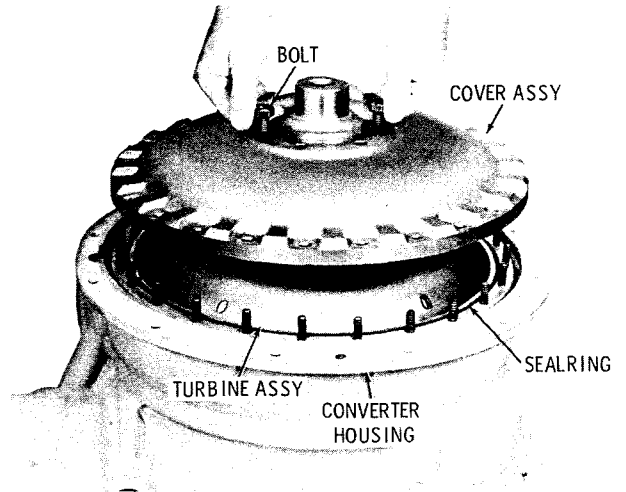

Fig. 7-41. Installing torque converter cover assembly
(4) If the transmission is equipped with a dry converter housing, install the sealring into the groove in the converter pump splitline (fig. 7-41).
(1) Install the torque converter drive cover (fig. 7-41).
(2) Install twenty four 5/16-24, self-locking nuts 4 (B, foldout 5) to retain the cover. Tighten the nuts to 14 to 18 pound feet torque.
(3) There are two types of direct-mount drives. One type employs a flex disk (items 6 through 9 in B, foldout 5). The other type employs a drive ring (items 1, 2 and 3). For the flex disk, follow (4), below. For the drive ring, follow (5) and (6), below.
(4) Install flex disk assembly 9, attached nuts first (toward rear). Assemble and install three flex disks 8 so that the cone of the flex disks will be parallel with cone of the disk assembly. Aline the holes in all disks and install the flex disk plate 7. Retain the assembled parts with six 1/2-13 x 7/8-inch, self-locking bolts 6 and tighten them to 81 to 97 pound feet torque.
(5) Install sealring 3 onto drive cover 5 (after lubricating it with grease specified in (6), below). The seal fits into a groove behind the drive teeth. Apply sealer (Permatex no. 3 or equivalent) to drive ring 1 and to the drive ring mounting face on the engine flywheel or drive disk (also to gasket, if used). Bolt drive ring 1 to the engine flywheel or drive disk, using eight bolts 2. Tighten the bolts to 36 to 43 pound feet torque.
(6) Pack the spaces between the internal teeth of drive ring 1 with a high quality molybdenum disulphide grease (Allison P/N 6769877 or equivalent). Fill the teeth completely, but do not use an excessive amount of grease.